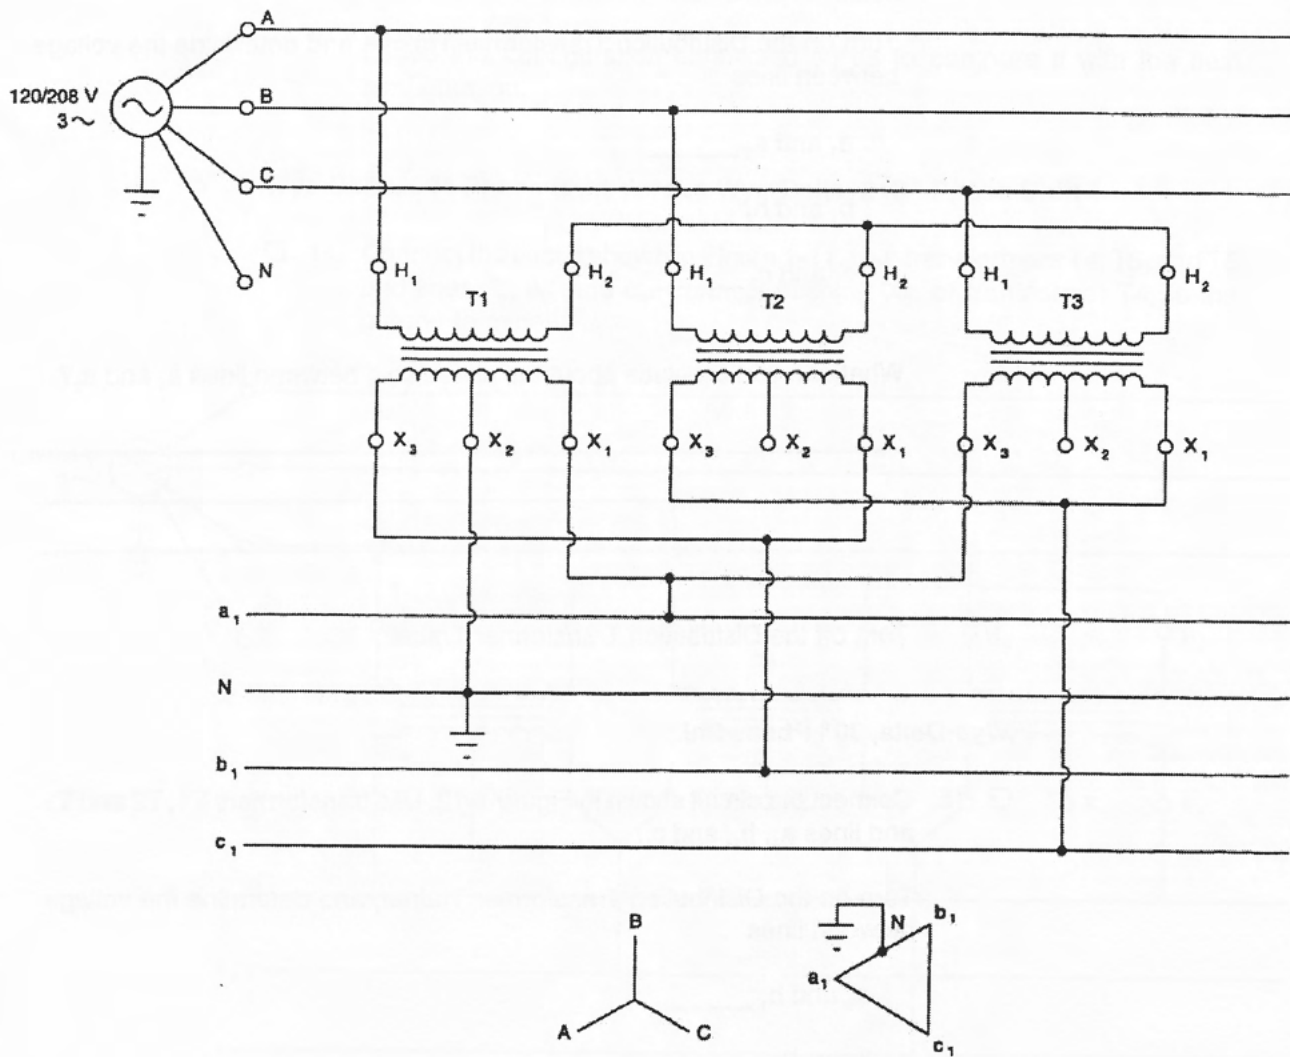

Figure 1-12. Wye-delta, 30° phase shift.
- ☐ 15. Connect the circuit shown in Figure 1-12. Use transformers T1, T2 and T3 and lines a_1 , b_1 , and c_1 .